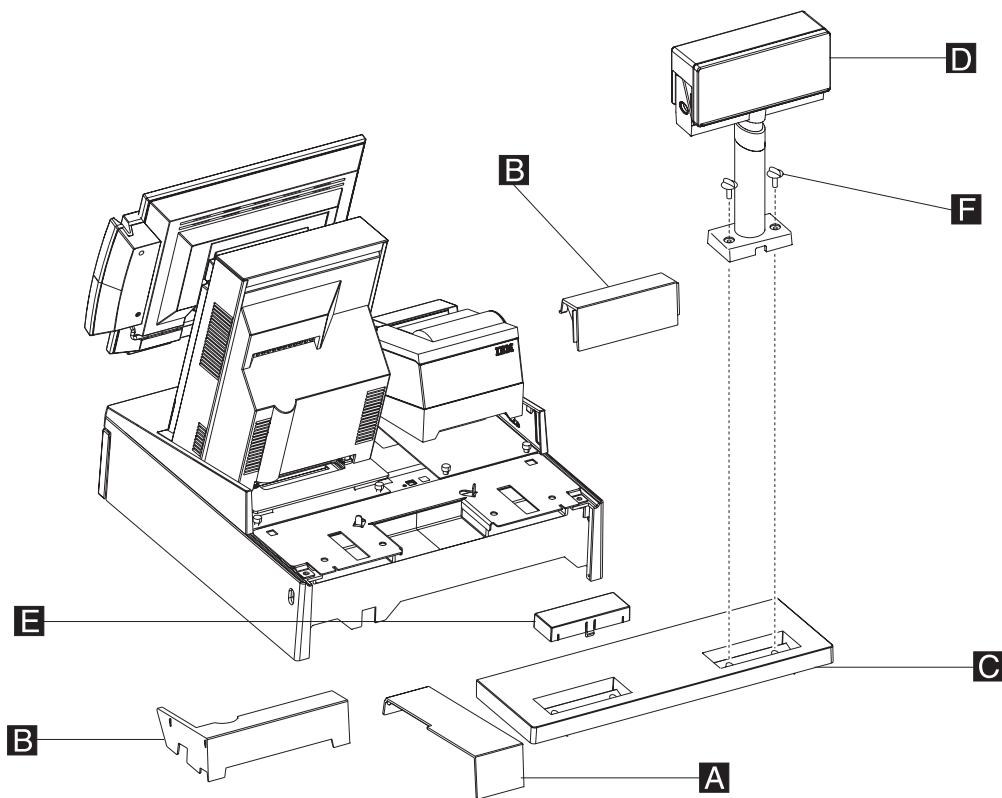

Figure 45. Attaching the distributed customer display to the system unit
- a. Remove the filler panels **A** and **B** (two) and the rear modesty panel **C** from the integration tray, as shown in Figure 45.
- b. Remove one of the two plugs **E** in the rear modesty panel. Figure 45 shows one plug removed.
- f. Reinstall the filler panels **B**, and then install **A**, as shown in Figure 45.